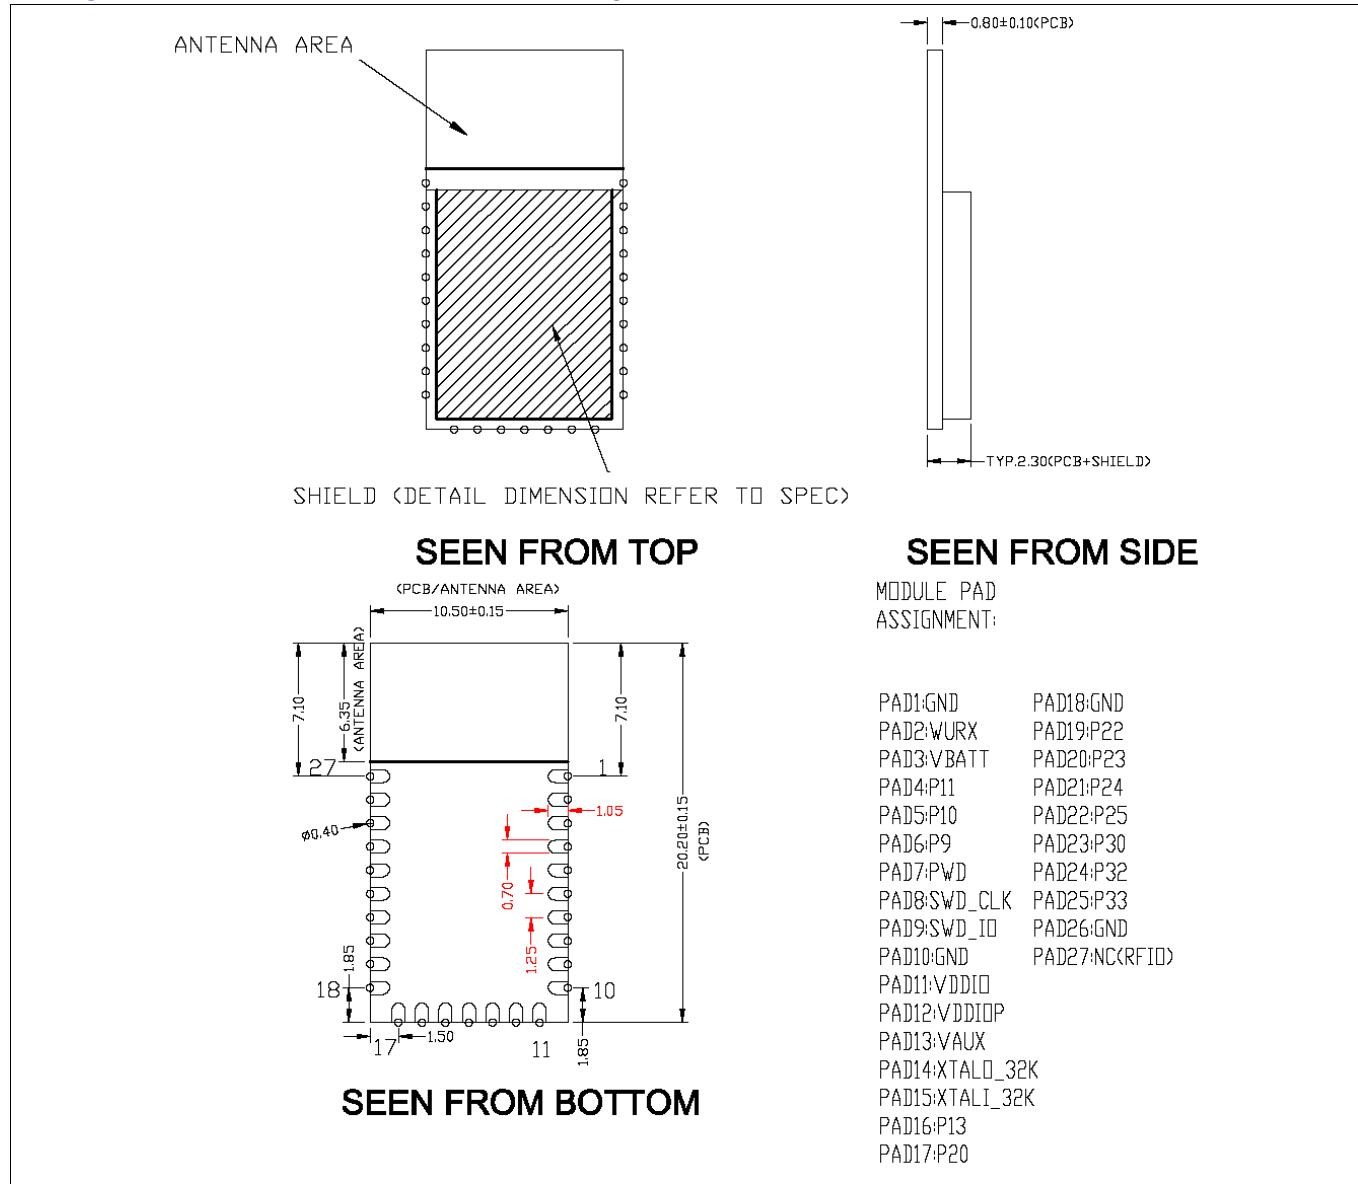
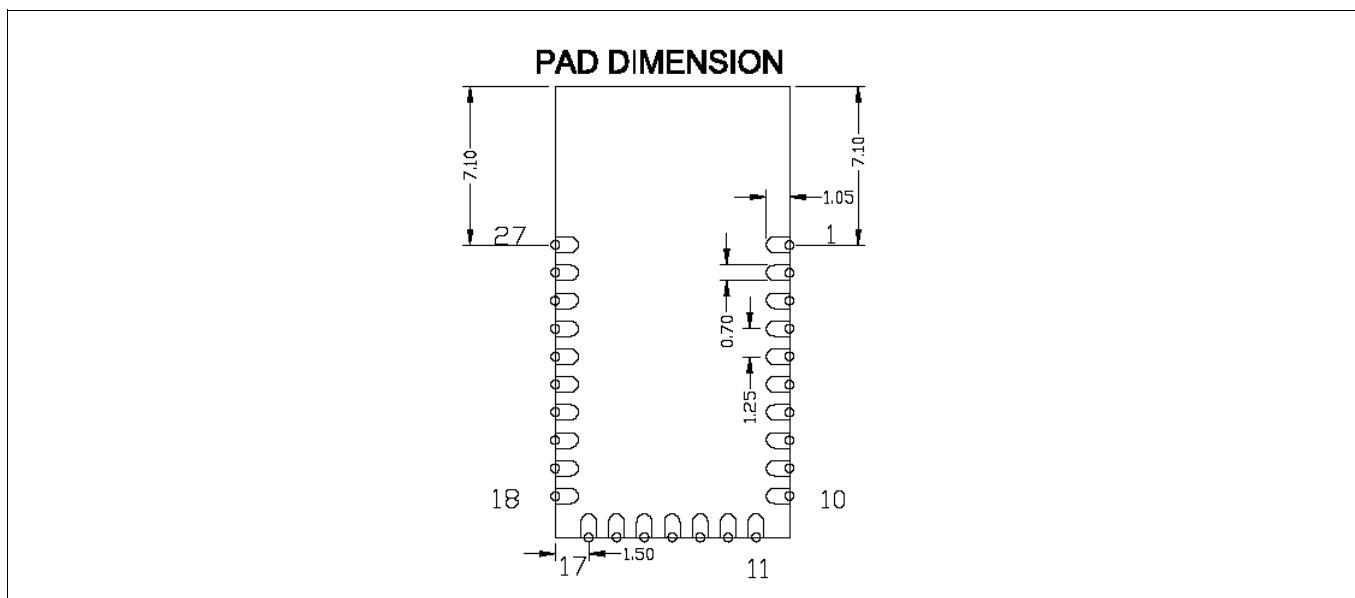

Figure 2 **Module mechanical drawing**
Figure 3 Solder pad dimensions (seen from bottom)
Infineon reserves the right to select components from various vendors to achieve the Bluetooth® module functionality. Such selections will still guarantee that all mechanical specifications and module certifications are maintained. Designs should be held within the physical dimensions shown in the mechanical drawings in **Figure 2**. All dimensions are in millimeters (mm).
See **Figure 2** for the mechanical reference drawing for CYW20822-P4xxl040.
As shown in the bottom view of Figure 2, the CYW20822-P4xxI040 connects to the host board via solder pads on the backside of the module. Table 2 and Figure 3 detail the solder pad length, width, and pitch dimensions of the CYW20822-P4xxI040 module.
1. Antenna Area Keepout: The host board directly below the antenna area of the module (see Figure 2) must not contain ground or signal traces. This keepout area requirement applies to all layers of the host board.
2. Module Placement: The ideal placement of the Bluetooth® module is in a corner of the host board with the PCB trace antenna located at the far corner. This placement minimizes the additional recommended keepout area stated in item 2. Refer to AN96841 for module placement best practices.